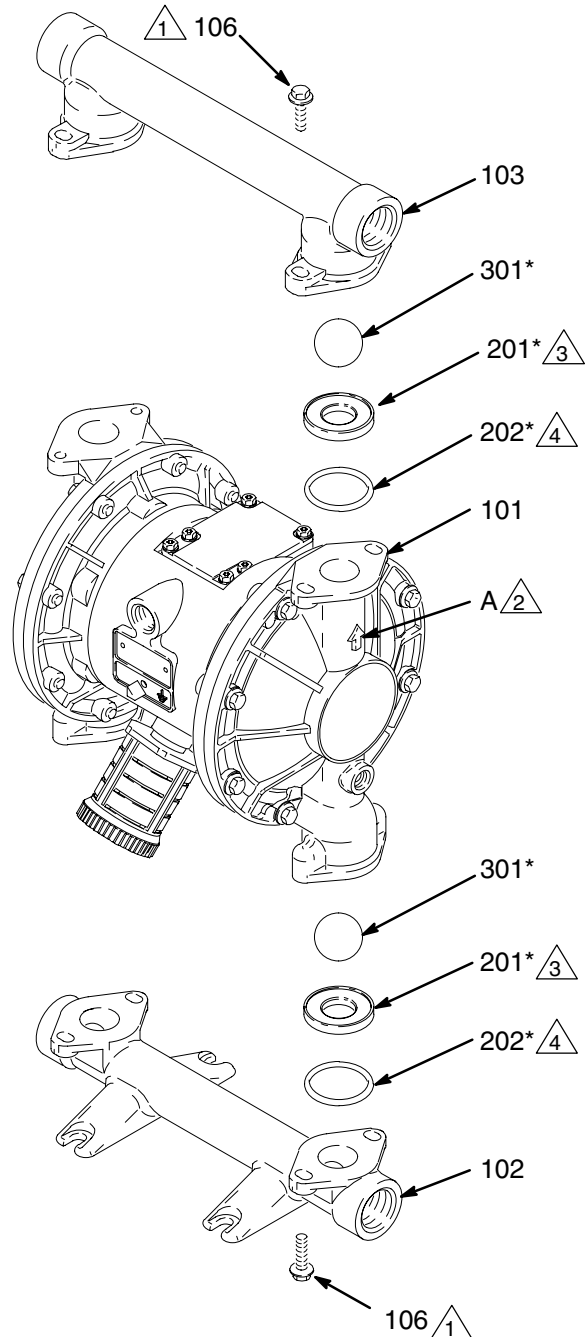

Fig. 12
3. Using a 10 mm socket wrench, remove the four bolts (106) and nuts (114, *used on stainless steel pumps only*) holding the outlet manifold (103) to the fluid covers (101). See Fig. 12.
4. Remove the o-rings (202, *not used on some models*), seats (201), and balls (301) from the manifold (103).
5. Turn the pump over and remove the inlet manifold (102). Remove the o-rings (202, *not used on some models*), seats (201), and balls (301) from the fluid covers (101).
2. Reassemble in the reverse order, following all notes in Fig. 12. Be sure the ball checks and manifolds are assembled **exactly** as shown. The arrows (A) on the fluid covers (101) **must** point toward the outlet manifold (103).